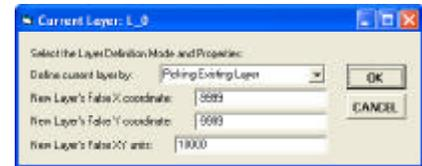
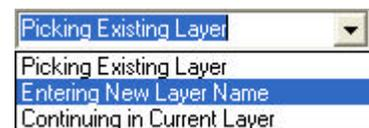

Figure 6
Figure 7
Upon selection of the [Set Active Layer] command, a dialog box similar to that shown in Figure 6 is displayed.
- Scroll down in the top data field of Figure 6 and select the Entering New Layer Name option (see Figure 7).
- (a) a geodatabase, the user will need to enter the appropriate False X, False Y and False XY Units values in the appropriate three data fields of Figure 6.